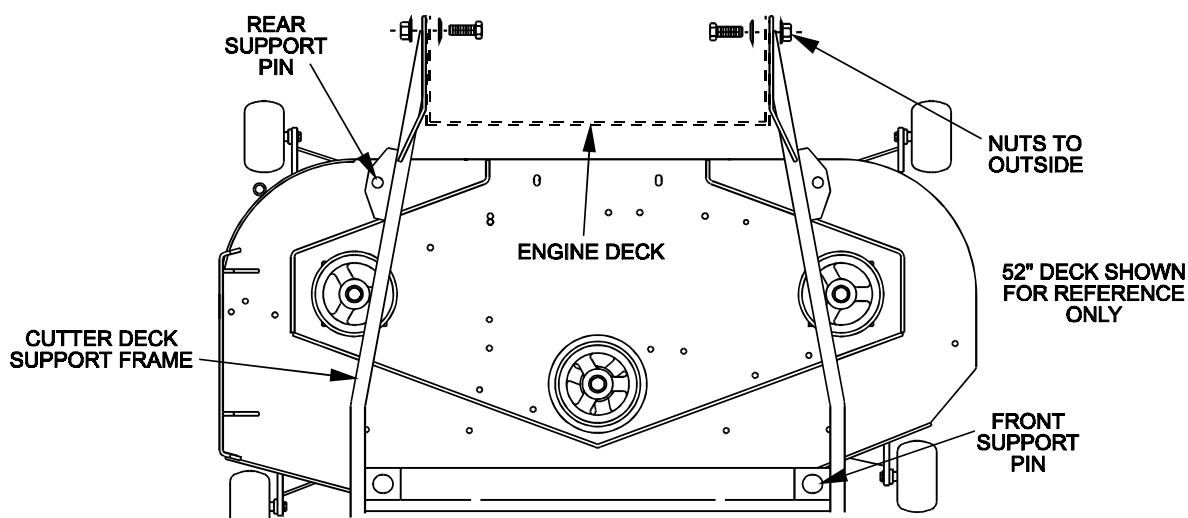

Fig. 2
3.3.2 Remove cutter deck support frame from cutter deck by removing the two hairpins and washers from the front deck support pins and by removing the two hairpins and washers from the rear deck support pins (See Figure 2).
Align and re-install the cutter deck support pins into the support frame. Install the two washers and hairpins onto the front support pins and the two hairpins and washers onto the rear support pins (See Figure 2).